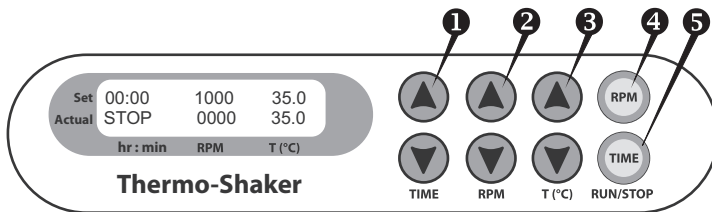

Fig. 1 Control panel
- 4.3 Using the ▲ and ▼ keys (Fig. 1/1) set the required working time interval in hours and minutes (increment - 1 min). Pressing the key for more than 3 s will increase the increment.
- 4.4 Using the ▲ and ▼ keys (Fig. 1/2) set the required speed (increment 10 RPM). Pressing the key for more than 3 s will increase the increment.
- 4.5 Using the ▲ and ▼ keys (Fig. 1/3) set the necessary temperature (increment 0.1°C). Pressing the key for more than 3 s will increase the increment.
4.7 Press the **RPM-RUN/STOP** key (Fig. 1/4). The platform will start rotating and the timer indicator will start counting up the time interval (with 1 min precision).
4.10 The timer can be reset during operation if required. Press the **TIME-RUN/STOP** key once (Fig. 1/5) to stop the timer. Press the **TIME-RUN/STOP** key again to restart the timer.
**Caution!** At the end of the set time period the platform movement is stopped automatically, but the heating can be stopped only by reducing the temperature using the **▼ T(°C)** key (Fig. 1/3 lower key) till the OFF sign appears in the upper part of the display.
Following error codes are show in the lower right corner of the display (fig. 1), accompanied by a sound signal every 8 s. Press **RPM RUN/STOP** key to turn off the signal. Please contact our Service Department in the UK or, in other countries, our distributor.